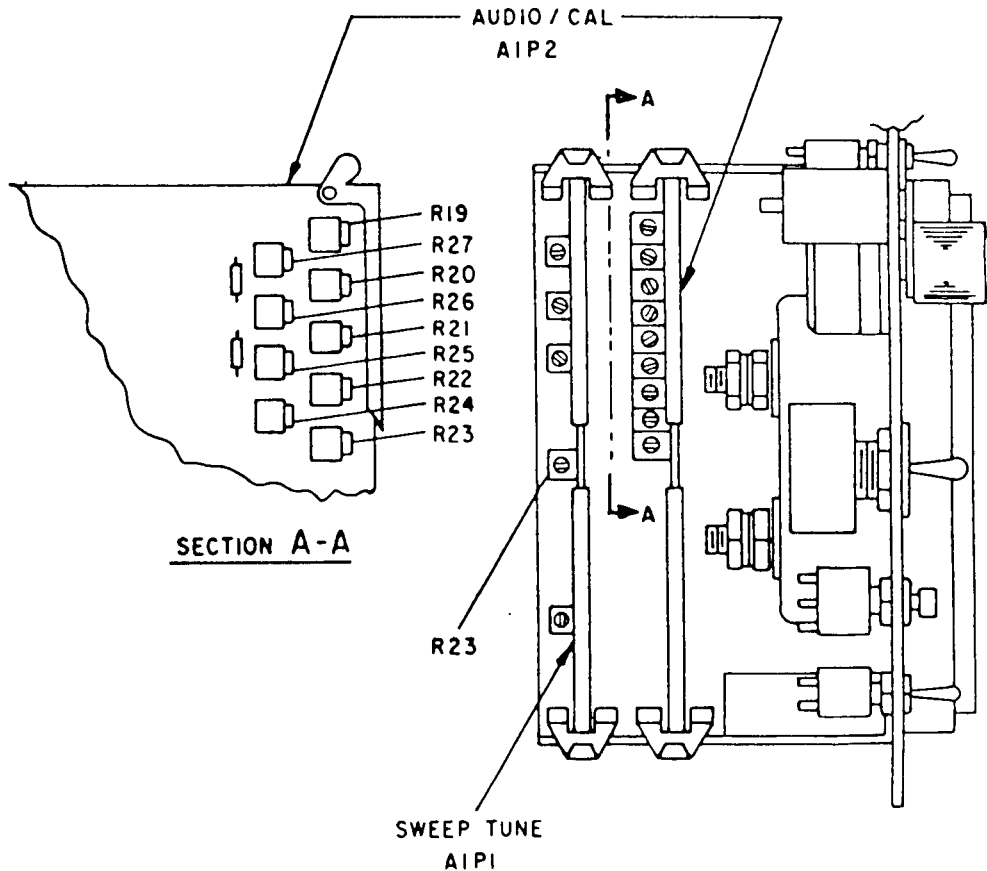

Figure 2. Adjustment locations.
- (3) Set **BAND STEP** switch to position **3** and **TUNING (COARSE and FINE)** controls for a 100-kHz indication on **FREQUENCY** dial. Set **ATTENUATOR** switch to **40/60**.
- (4) Adjust test oscillator frequency to 100 kHz and output for an upper-scale indication on TI meter. Fine tune oscillator for peak indication.
- (5) Adjust test oscillator output for a -67-dB input to TI. (Test report value of attenuator must be added to test oscillator output indications).
- (6) Adjust **CAL** level control for a 0-dB indication on TI meter.
- (7) Press **CAL** pushbutton and adjust R27 (fig. 2) for a 0-dB indication on TI meter (R).
(8) Set **BAND STEP** switches to position 1 and adjust **TUNING, (COARSE and FINE)** controls for a 20 kHz **FREQUENCY** dial indication.
(9) Repeat technique of (4) and (5) above for test oscillator output frequency of 20 kHz. If TI meter does not indicate 0 dB, record the error.
(10) Set **BAND STEP** switches to position 4 and adjust **TUNING, (COARSE and FINE)** controls for a 200 kHz **FREQUENCY** dial indication.
(11) Repeat technique of (4) and (5) above for test oscillator output frequency of 200 kHz if TI meter does not indicate 0 dB, record the error.
(12) If error recorded in (9) and (11) above exceeds ± 1 dB. Repeat (3) through (11) above and readjust R27 (fig. 2) for best in-tolerance condition.
(13) Repeat technique of (3) through (5) above for TI **BAND STEP** switch positions, **FREQUENCY** dial indications, and test oscillator frequencies listed in table 9 while adjusting corresponding adjustment in table 9 for a 0 ± 1 dB indication on TI meter.
If an out-of-tolerance condition is noted in (19) below, perform adjustment and then repeat the 9 MHz check in (13) above while readjusting R24 (fig. 2) for best in-tolerance results.
(19) If TI meter does not indicate 0 ± 2 dB adjust R24 (fig. 2) until TI meter indicates within tolerance.
(20) Set **BAND STEP** switches to position TI and adjust **TUNING, (COARSE and FINE)** controls for a 35-MHz indication on **FREQUENCY** dial.
(21) Set attenuator to 40 dB and repeat (16) above.
(22) Adjust signal generator frequency to 35 MHz and output for an upper-scale indication on TI meter. Fine tune signal generator for peak indication.
(23) Adjust signal generator output for a -47 dB input to TI (power meter indication must be added to test report value of attenuator).
(24) Adjust R19 (fig. 2) for a 0-dB indication on TI meter (R).
(25) Repeat technique of (20) through (24) above for **BAND STEP** switch positions, **FREQUENCY** dial indications, and signal generator frequencies listed in table 10. While adjusting corresponding adjustment as listed in table 10.